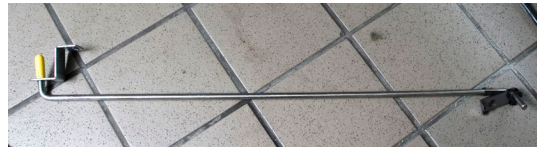

Figure 5 The oil-return activation rod is shown with its hardware attached.
12. Assemble the oil disposal rod. Preassembly is necessary due to space constraints in the cabinet. See **figure 5**.